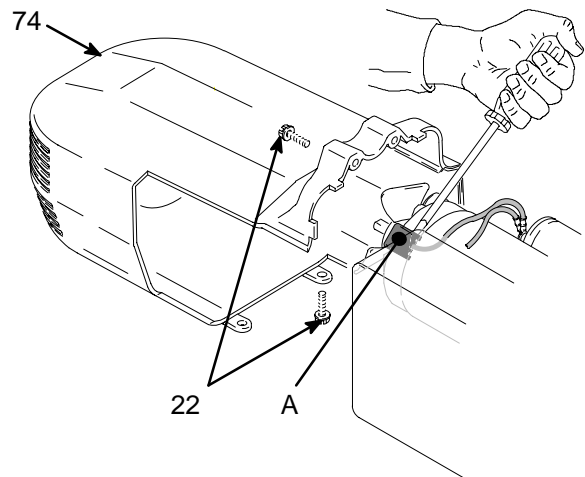
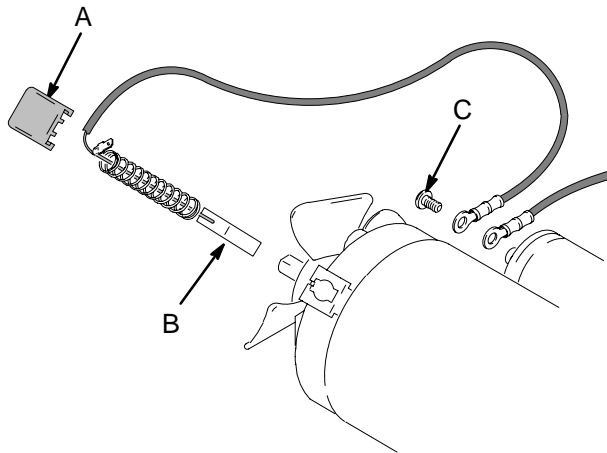

Fig. 2
Fig. 3
3. Fig. 2. Remove motor shroud (74).
1. Fig. 2. Remove four screws (22) and motor shroud (74).
2. Pry off two brush caps (A). Tag locations of red (+) and black (-) motor leads.
3. Fig. 3. Remove screw (C) and discard brush (B) for motor with capacitor attached. Remove brush lead from control box for motor without capacitor attached.
- Fig. 3. Insert brush (B). Push clip (A) until it snaps into place and secures brush.
- Fig. 3. Install red (+) and black (-) motor leads according to tags. Install brush lead end with screw (C) to motor-mounted capacitor or route lead into control box and connect to board.